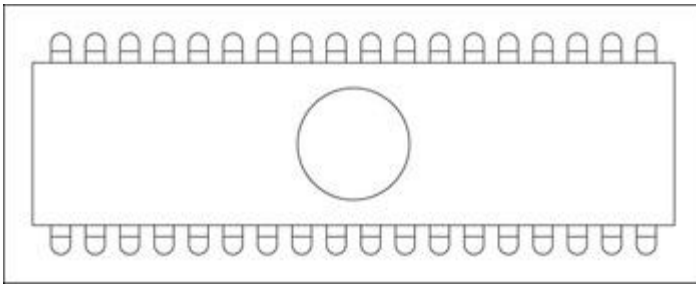

Figure 5-3: An EPROM chip.
- 1 **Erasable Programmable Read Only Memory (EPROM):** An *EPROM* (pronounced "e-prom," which isn't a dance attended over the Internet) is a variation of the original PROM with the added feature of data that can be erased so that the chip can be reprogrammed. Unlike the PROM, you can reuse the EPROM instead of discarding it when its contents are no longer valid. The EPROM has a small quartz crystal window on the top of the chip through which ultraviolet (UV) rays can access the chip's circuitry. The UV light causes a chemical reaction that erases the EPROM by turning the 0's back into 1's again. To prevent accidental erasure of the EPROM chip, a label tape is normally placed over the quartz crystal window. Figure 5-3 shows an EPROM chip. The downside of an EPROM is that it must be removed from the system to be reprogrammed, which is not always possible.